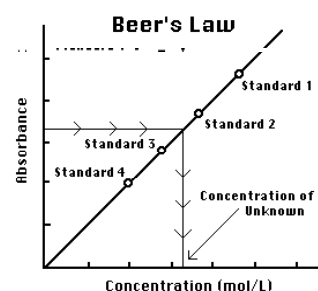

Figure 2
You will prepare five copper (II) sulfate solutions of known concentration (standard solutions). Each solution is transferred to a small, rectangular cuvette that is placed into the Colorimeter. The amount of light that penetrates the solution and strikes the photocell is used to compute the absorbance of each solution. When you graph absorbance vs. concentration for the standard solutions, a direct relationship should result. The direct relationship between absorbance and concentration for a solution is known as *Beer's law* (see Figure 2).